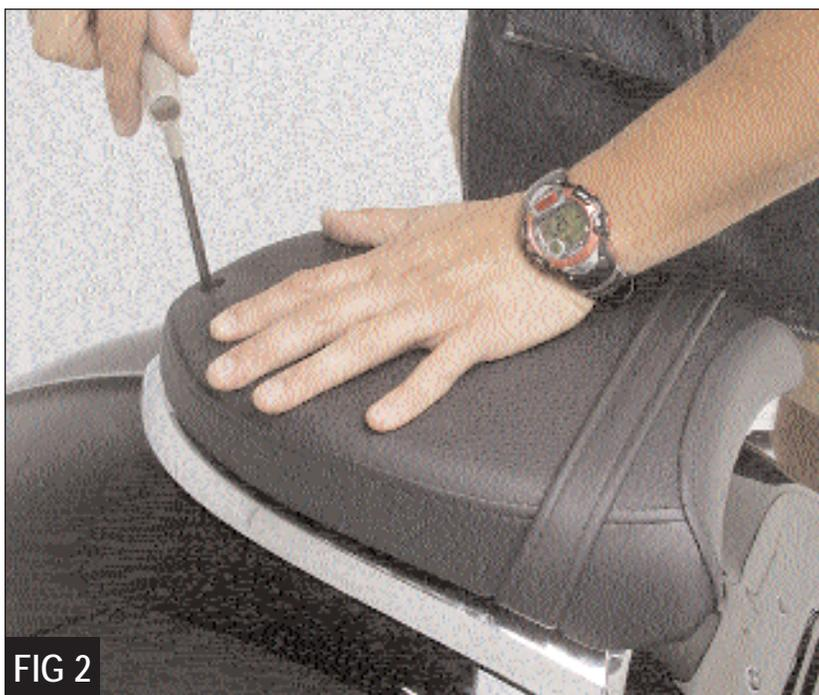

FIG 2
1. Remove the stock rear seat. (Figure 2)